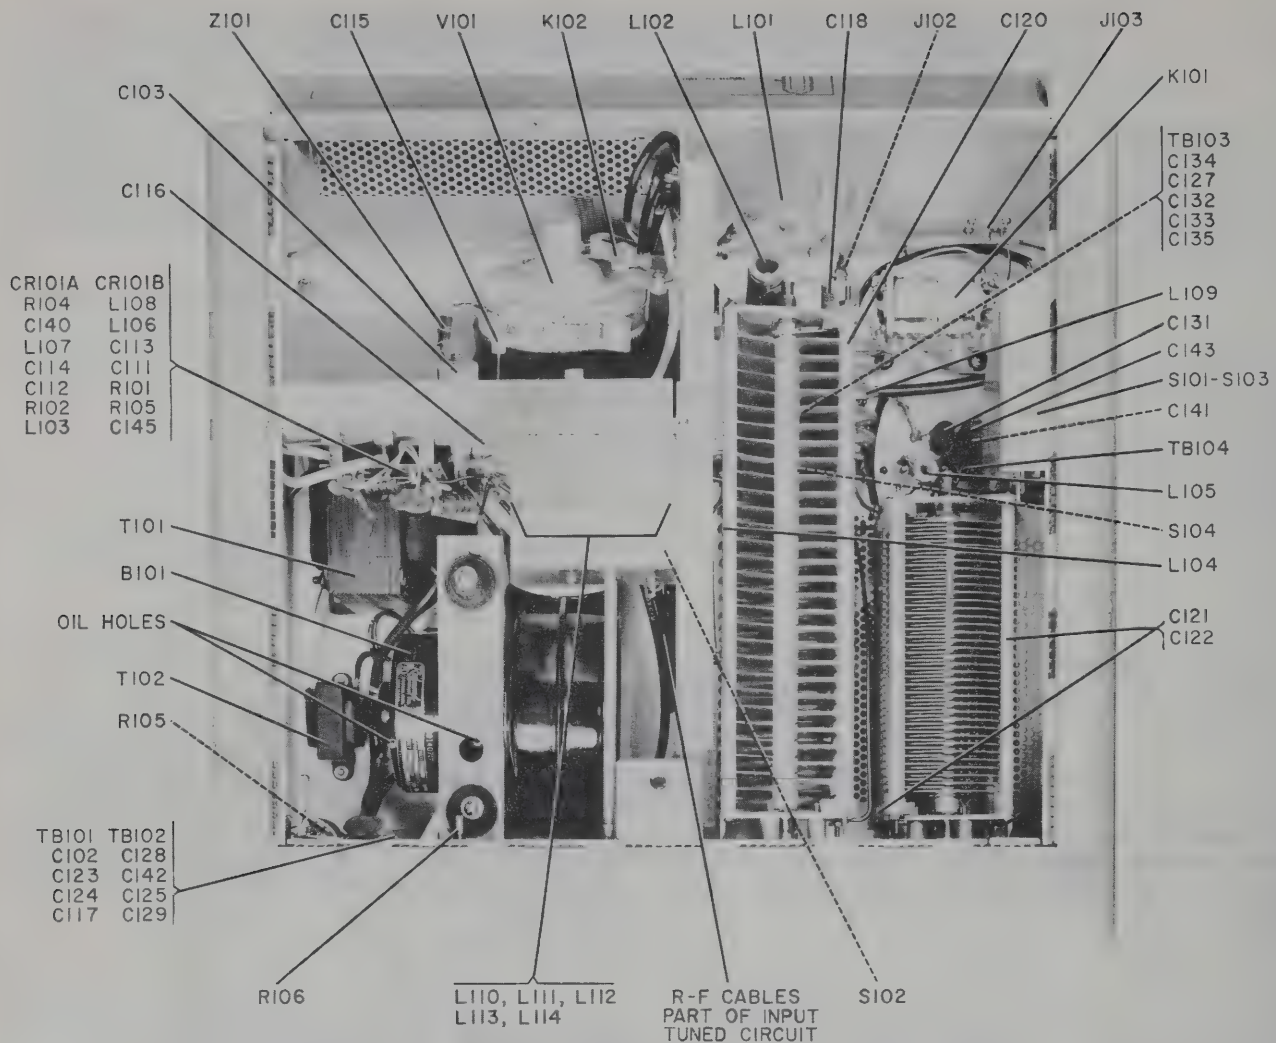

Figure 14. Power Amplifier Compartment, Parts Location
5.2 **BLOWER LUBRICATION.** Every 1000 hours of operation (approximately 6 months of normal use), lubricate the blower motor bearings with a few drops of lightweight oil. Sewing-machine oil is adequate. Do not overlubricate. Figure 14 shows the oil-hole locations.
Refer to figure 14 which shows the power amplifier tube properly installed and the proper operating position of K102. Inspect the rf compartment to be sure there are no short circuits, and close the top cover.